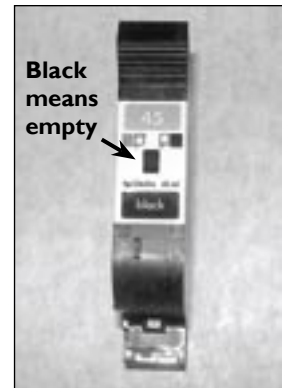

Figure 36. HP cartridges have an ink level indicator.
4. Inspect the cartridge for damage and check the ink level indicator. If it is green, the cartridge still contains ink. If it is black, the cartridge is empty and needs replacing. (See *Figure 36*.)